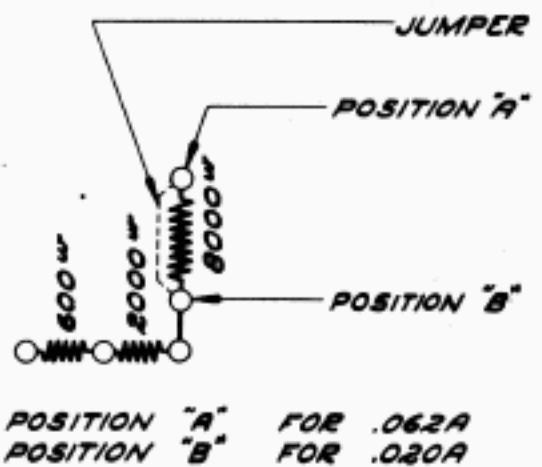

FIGURE 2
4. If the printer is to be used on a .020 ampere circuit, it will be necessary to shift one end of the jumper on the 8000 ohm resistor from position "A" to position "B." (See Figure 2.) The Teletype RY-30 relay should be used for .020 ampere operation. The RY-28 relay is not satisfactory for this application.
- 3. If the printer set has been operating on a .020 ampere circuit, it will be necessary to shift one end of the jumper on the 8000 ohm resistor from position "B" to position "A." (See Figure 2.)